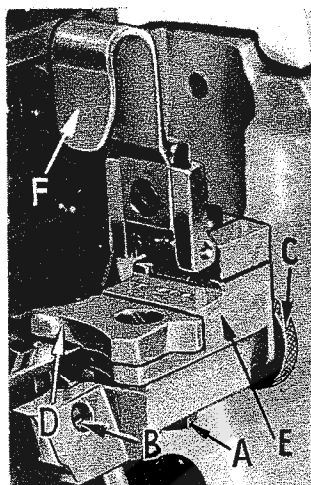
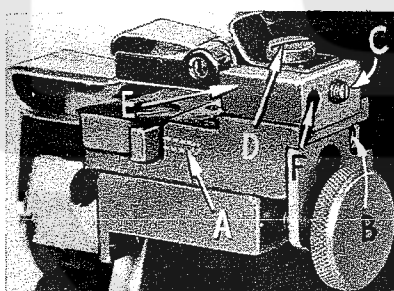

Fig. 18
Fig. 19
Loosen lock screw (A, Fig. 18), then proceed as follows:
Assemble the hemming guide support bracket onto the lower knife support bracket by means of screw (B, Fig. 18). With the knurled adjusting screw (C), set the edge guide (D) so that the left side of its tip is even with and parallel to the right side of the right feed slot in the throat plate.
When the edge guide tip is in this position, the front or leading edge should be slightly to the right of parallel. This adjustment can be made by positioning the stop screw (A, Fig. 19) located towards the front of the hinge block and edge guide support bracket (E, Fig. 18).
Under normal conditions, the edge guide is spring loaded to compensate for the differences in the material thickness. The amount of movement and the pressure applied to the edge guide tip can be set by removing lock screw (B, Fig. 19) and adjusting the screw which presses against the spring and pin, located in the hinge block and edge guide support bracket (E, Fig. 18). Replace lock screw and tighten securely.
If movement of the edge guide is not required, then remove lock screw (B, Fig. 19), set screw and spring; then replace set screw and lock screw. Be sure set screw is tightened against pin and lock screw is tightened against set screw.
Adjust the edge guide (D, Fig. 18) by turning the knurled adjusting screw (C) so that the stitches are located in the folded edge, yet do not show on the face of the fabric. At this point re-tighten screw (A, Fig. 18) securely.
Adjust the overhanging guide (F, Fig. 18) so that the space between its guiding edge and the edge guide (D) corresponds with the thickness of the material to be hemmed. Loosen set screw (C, Fig. 19) and holding screw (D), now move the hinge block (E) to obtain the proper distance between the edge guide and the overhanging guide. Re-tighten screws (C) and (D). Remove lock screw (F) and adjust stop screw that is in front of lock screw, so that the tip of the overhanging guide is located at the center of the edge guide vertically. Replace lock screw (F) and tighten against stop screw.